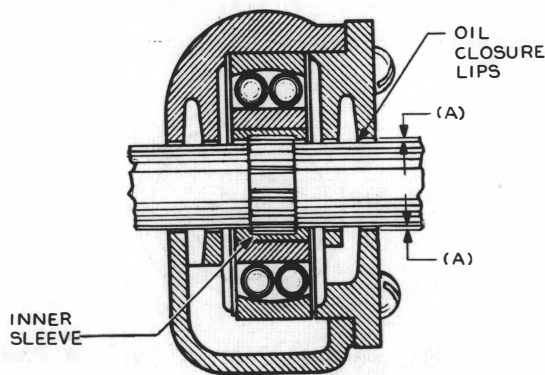

Fig. 26 - Oil Closure Clearance of Bearings
2.43 Oil Closure Clearance: Fig. 26(A) - The clearance between the oil closure lips and the shaft shall be